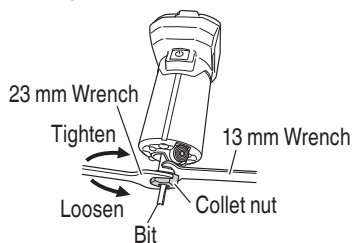

Fig. 10
- (1) Remove the base ass'y from the body.
- (2) Deeply inset the bit into the collet cone hole. (The distance is 15 mm or more from side of collet nut.)
- (3) Use a 13 mm Wrench to secure the shaft, and securely tighten the collet nut with the included wrench. (Fig. 10)